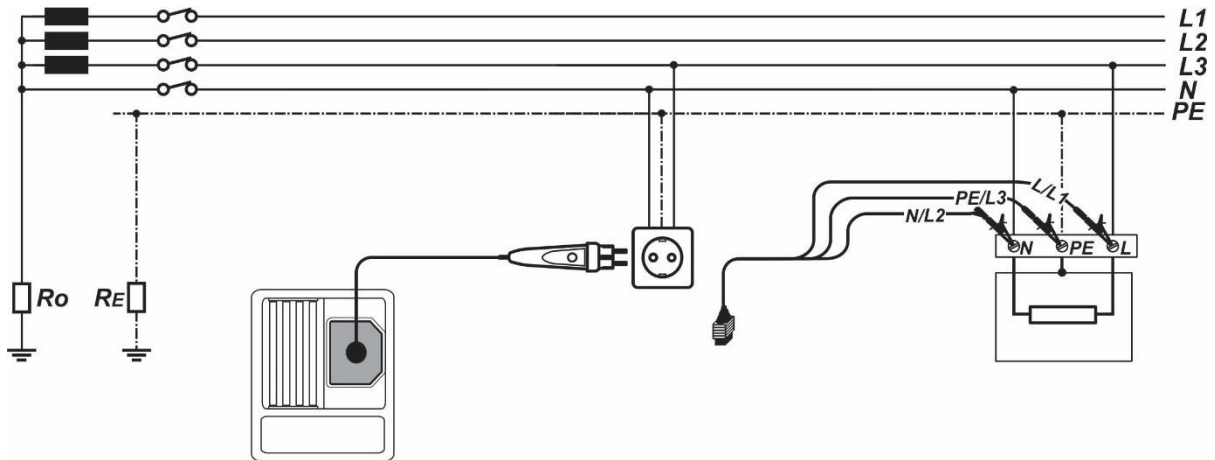

Figure 5.24: Connection of plug commander and 3-wire test lead
- ❑ **Connect** test leads to the item to be tested (see *Figure 5.17* and *Figure 5.24*).